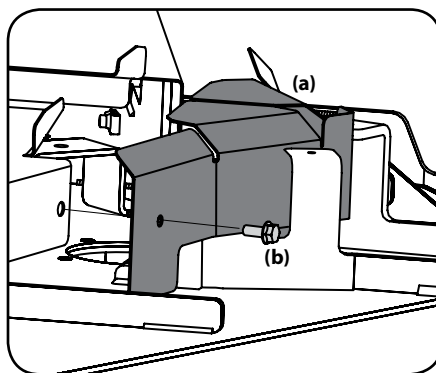

Figure 4-13
3. On models with full deck covers, the front deck cover (a) will need to be removed before removing the deck. To take off the front deck cover (a) remove the two hex screws (b, one on each side) that secure it to the main deck cover. See Figure 4-13.
13. On models with deck covers, re-install the front deck cover. See Figure 4-13.